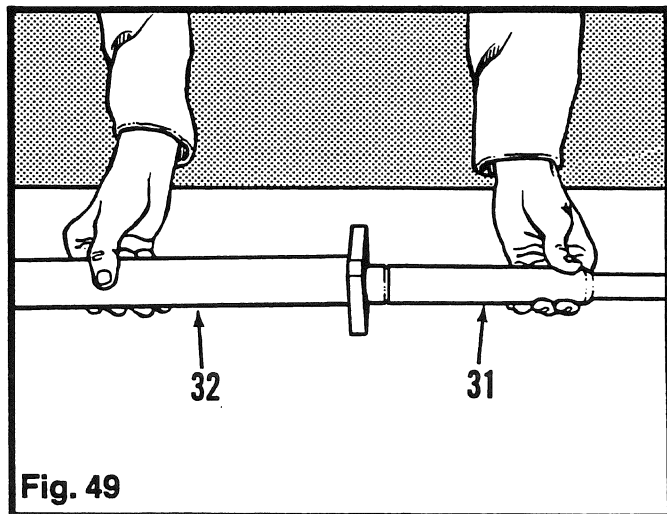

Fig. 49
2. Remove the shaft assembly (31) from the tube (32) by pushing it in the direction of the flange. (Fig. 49)